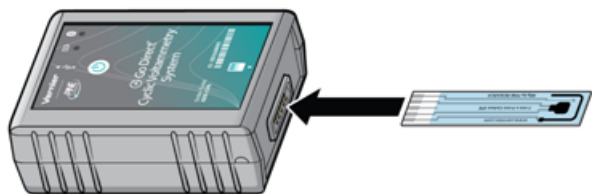

Figure 1
1. Insert a screen-printed electrode (SPE) into the SPE connector on the Cyclic Voltammetry System (see Figure 1). Avoid touching the black electrode part